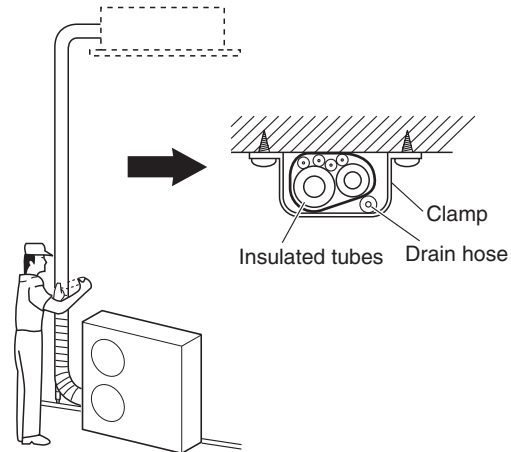

Fig. 5-9
- (1) At this time, the refrigerant tubes (and electrical wiring if local codes permit) should be taped together with armoring tape in 1 bundle. To prevent condensation from overflowing the drain pan, keep the drain hose separate from the refrigerant tubing.
- (2) Wrap the armoring tape from the bottom of the outdoor unit to the top of the tubing where it enters the wall. As you wrap the tubing, overlap half of each previous tape turn.
- (3) Clamp the tubing bundle to the wall, using 1 clamp approx. each meter. (Fig. 5-9)